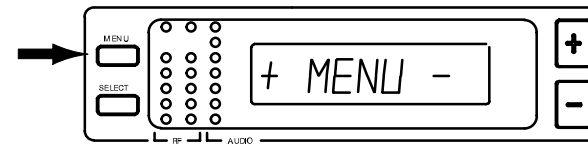

FIGURE 11
2. Press the MENU button. The “+ MENU -” display will appear, as shown in Figure 11.